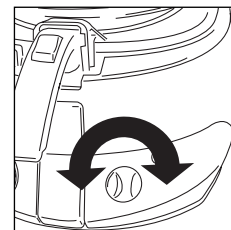

fig. 4
3. Set thermostat knob to the required temperature (fig.4). When the temperature set has been reached, indicator light will go off.